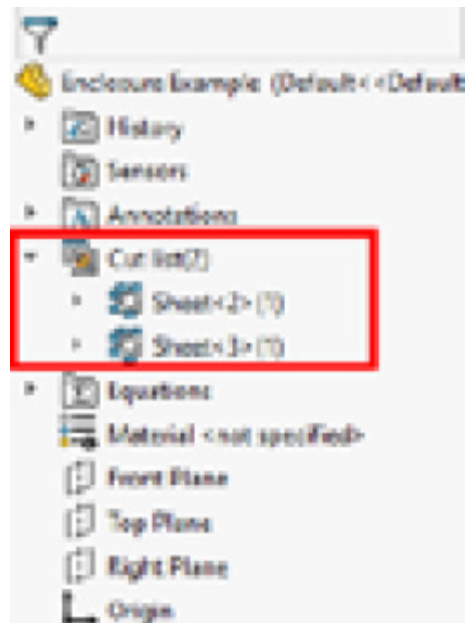

Figure 13.14 – The Cut list folder, showing both sheets
5. Press **OK** to create the lid sheet. We can now see that the **Cut list** folder in the FeatureManager Design Tree (*Figure 13.14*) shows two different sheets – one for the base and one for the lid. If we expand the folder, we can show or hide each of the sheets in turn.